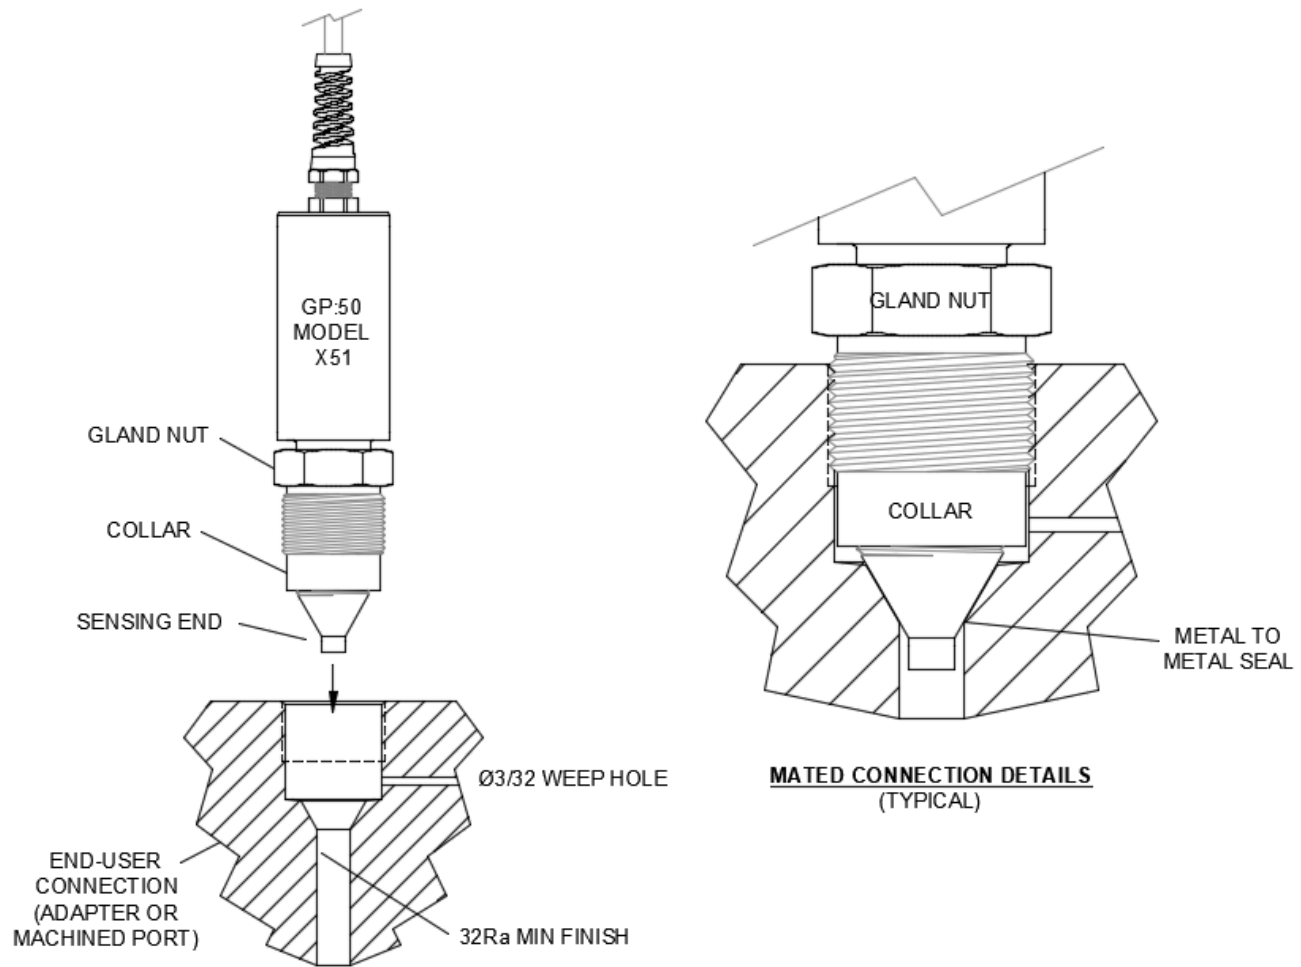

Figure 2.2: Model x51 Installation Details (Typical)
The Model x51 device is a high-pressure flush sensor design that mates specifically to an industry standard female high-pressure design such as Parker/Autoclave Engineer's F1000C43 designation (or similar) as depicted in Figure 2.2. A high-pressure metal-to-metal seal is also created once the Model x51 Gland Nut is torqued in place.
- When cleaning of the Model x51 device is required, system pressure shall be removed. The Gland Nut shall be loosened allowing the Model x51 device to be completely removed from the system (Clean Out of Place – COP). Cleaning of the device shall be per standard cleaning practices. Special care shall be taken to preclude damage to the sensing end of the device as identified in Figure 2.2.